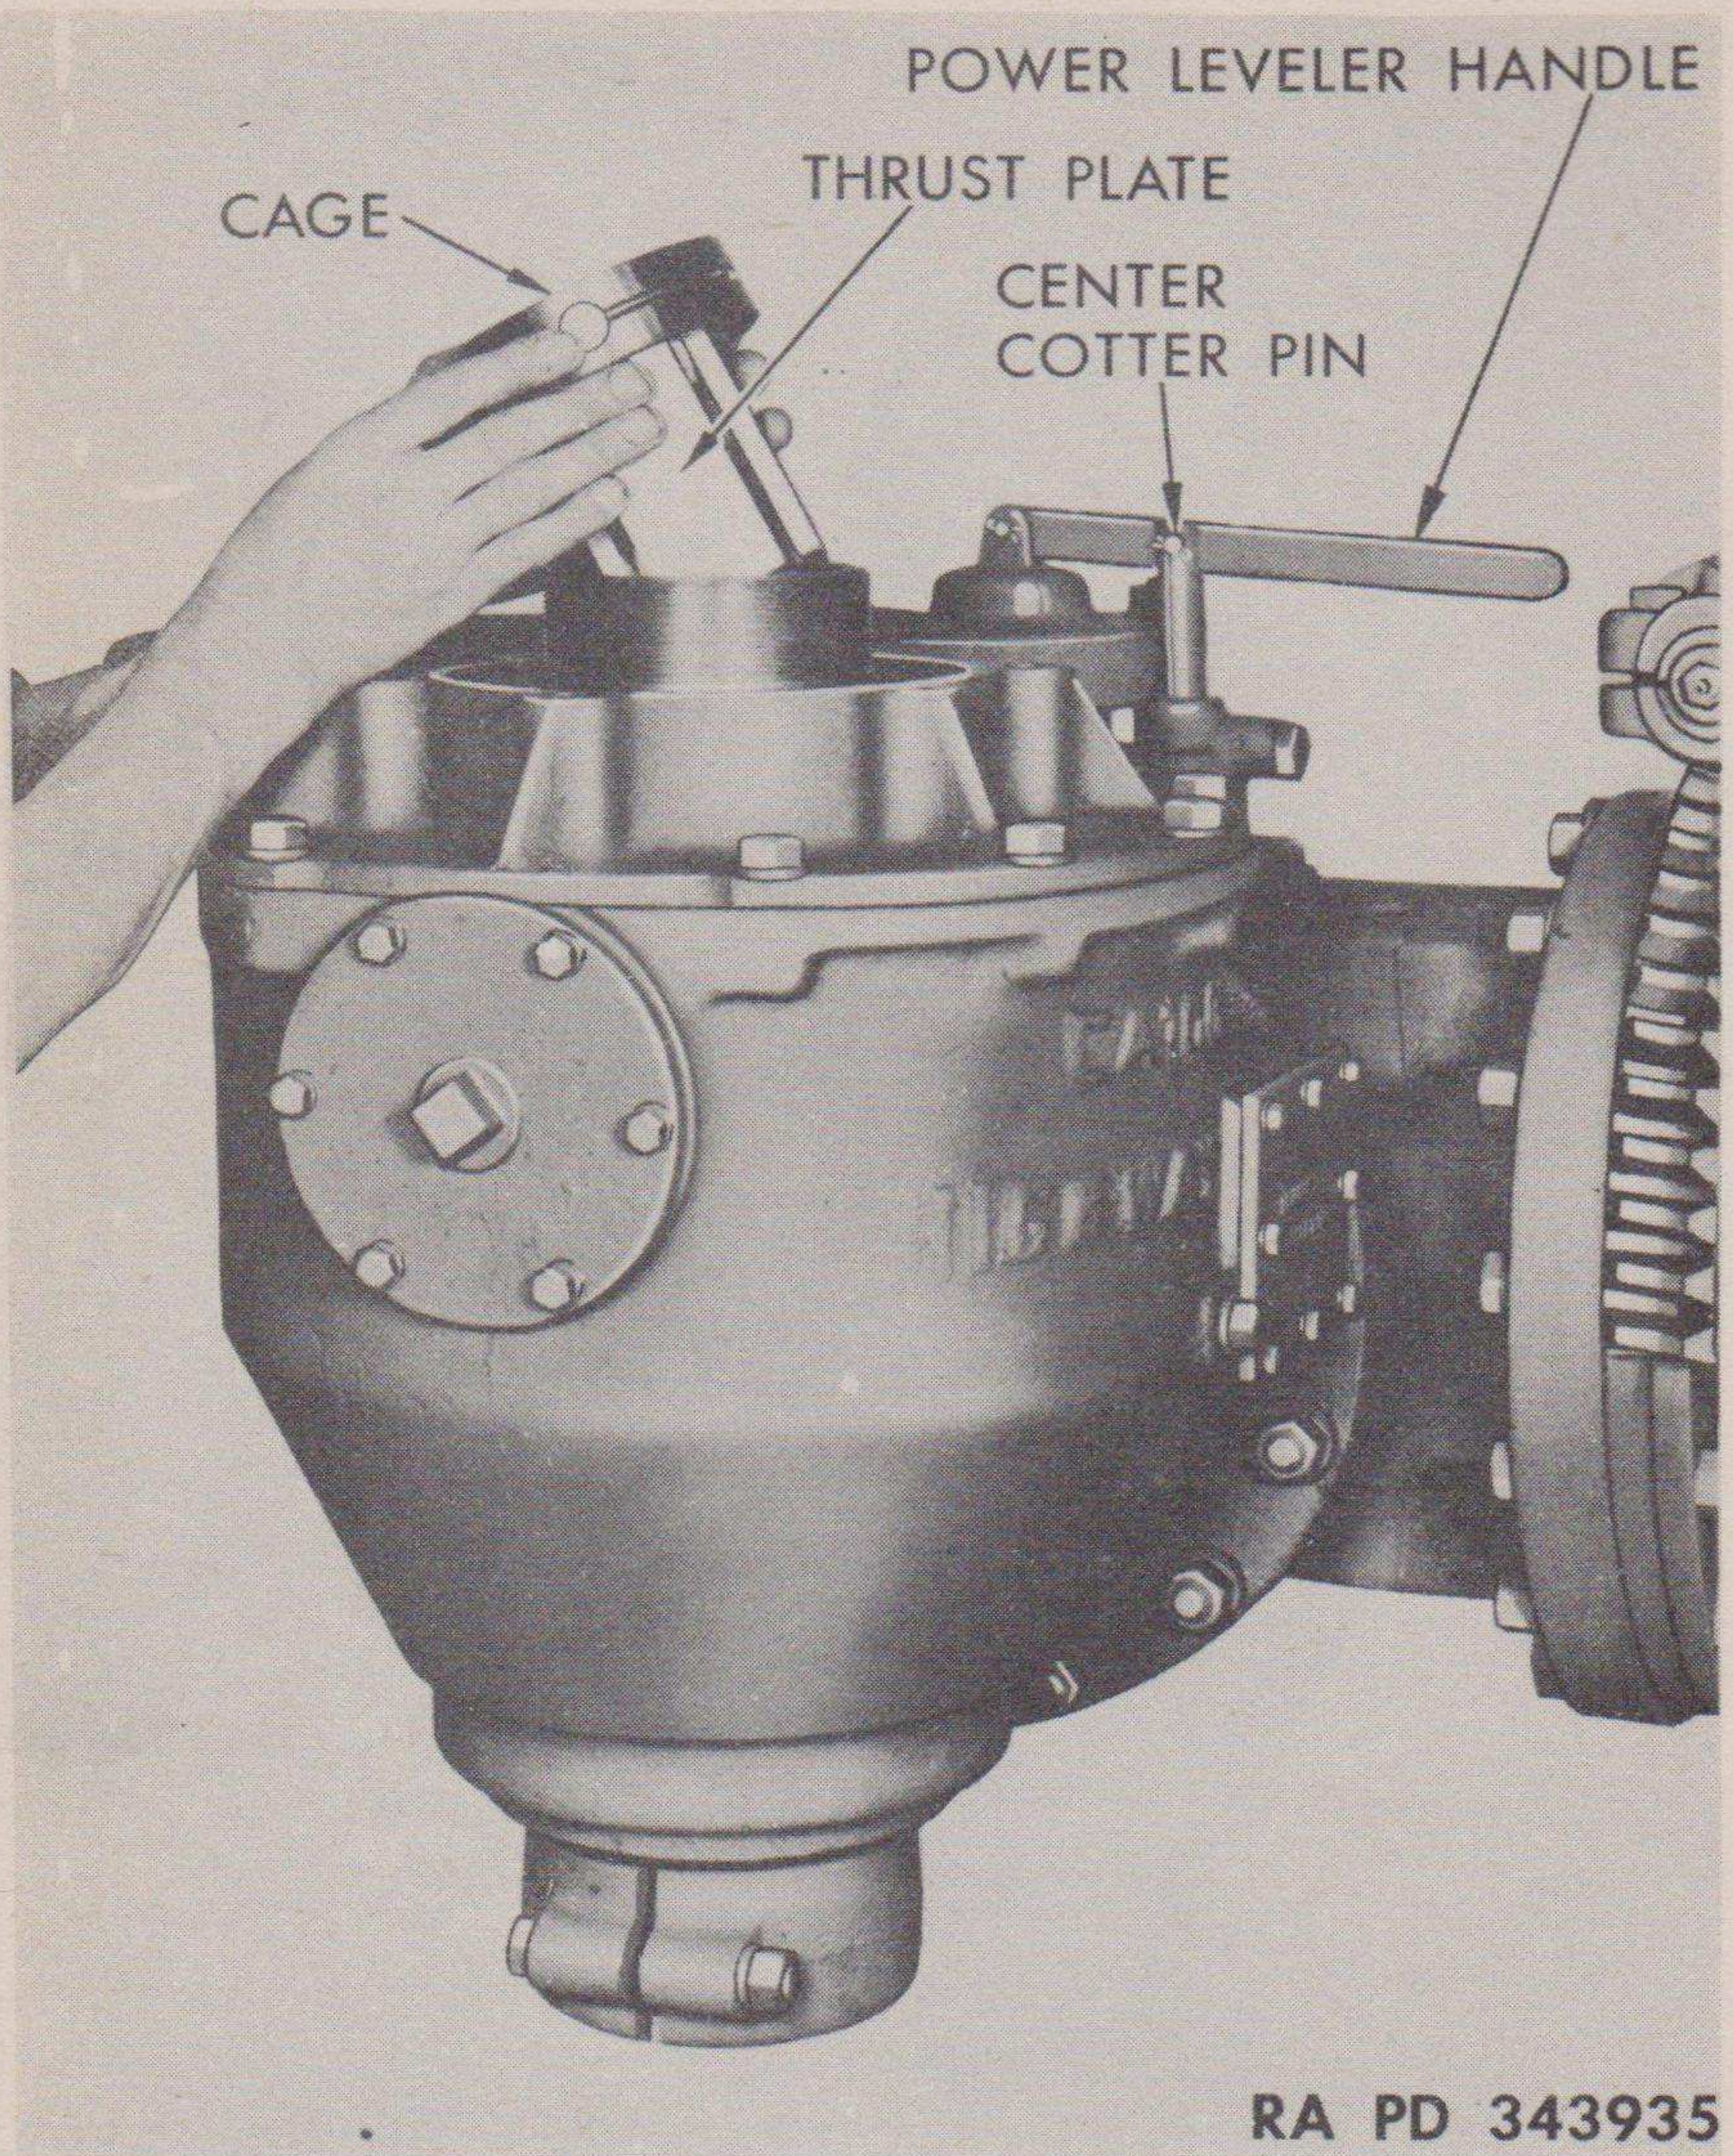

Figure 74—Removing Upper Thrust Plates and Cage
(4) UPPER THRUST PLATES AND CAGE (fig. 74). Lift cage and plates from end of boring head.
(7) **UPPER THRUST PLATES AND CAGE.** Insert plates and cage in upper end of boring head. (See fig. 74.)